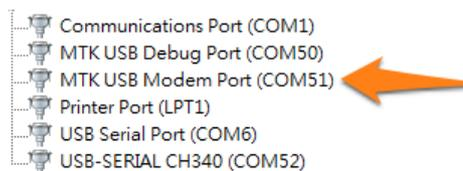

Figure 17 The MTK USB Modem Port (COMnn) in Device Manager
- b) In **Device Manager**, navigate to **Ports (COM & LPT)** and locate **MTK USB Modem Port (COMnn)**, as shown in Figure 17, noting the COM port number.